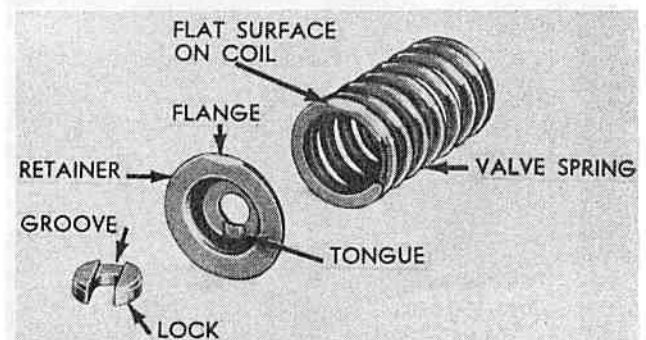

FIG. 164
**NOTE.**—On the Champion, the flanged part of the retainer should fit over the flat surface on the edge of the lower coil of the spring, and the tongue on the retainer should fit in the groove in the spring lock (see Fig. 164).